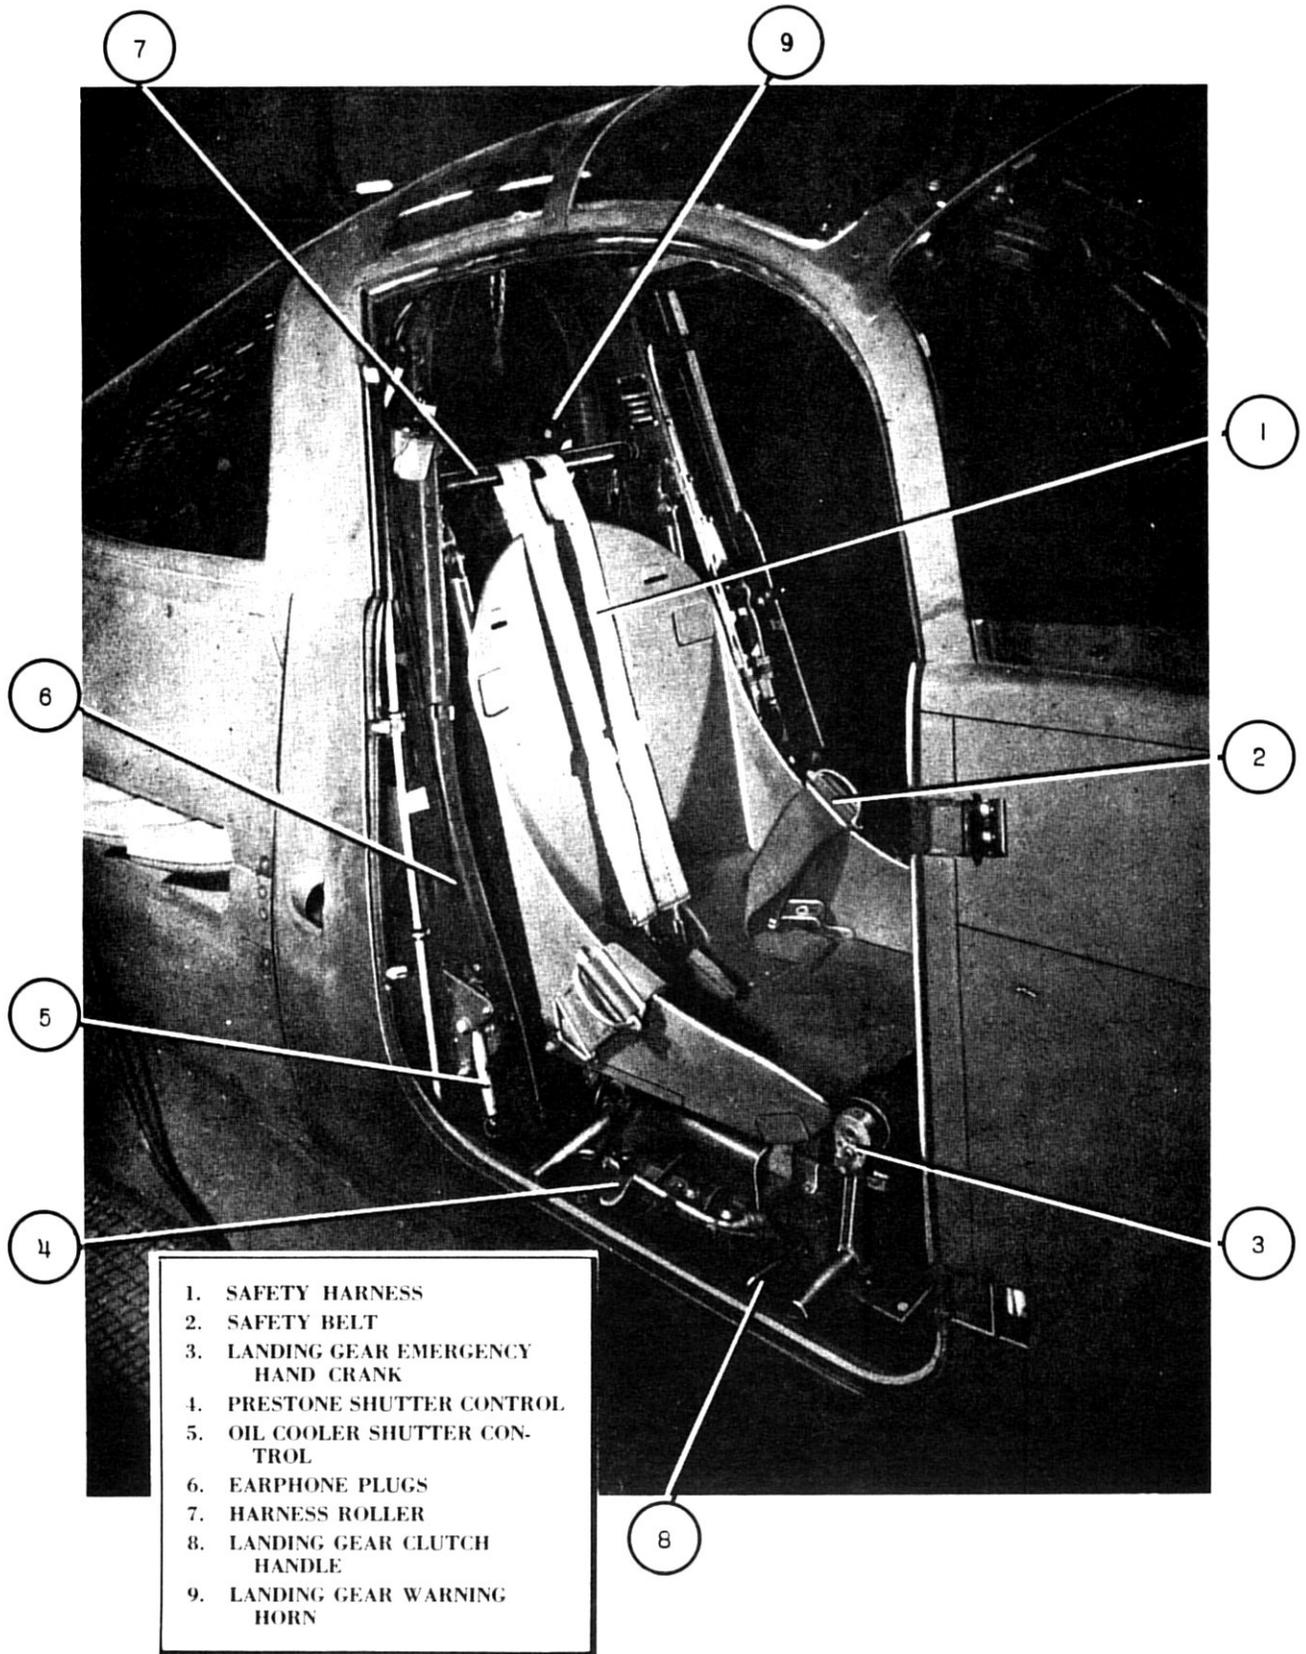

Figure 10—Turnover Beam, Right Hand Side
(2) *Oil Shutters.*—The oil shutter control handle (Fig. 10—5) marked "Open" and "Closed" is located on the fuselage turnover beam at the pilot's right hand.
(6) Check that position of landing gear clutch handle (Fig. 10—8) is in position for electric operation of the landing gear.